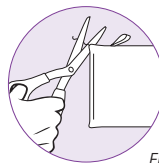

Fig. 34
- 2 If there are loose threads on the cleaning pad carefully cut the thread with scissors. Do not pull on them or cut at the base. (Fig. 34)